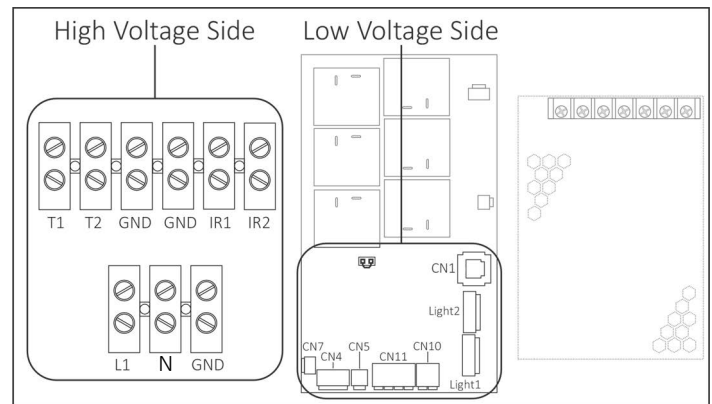

Figure 10. CB Box Interior
22. The sauna room wires and cables are labeled according to the terminals they connect to inside the CB box. See Figure 10.